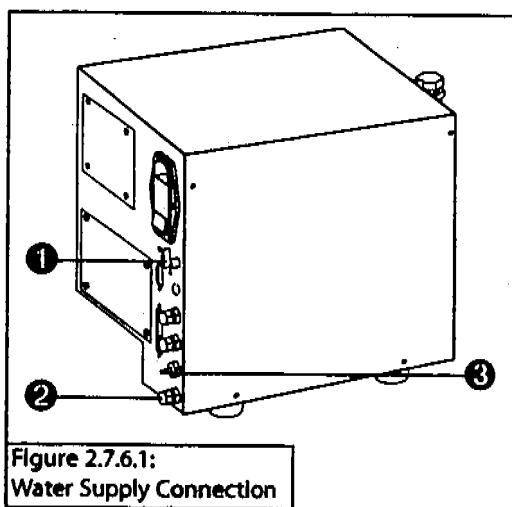

Figure 2.7.6.1:
If you are not using an external reservoir kit, make sure that the toggle valve on the rear of the sample module (❶, Figure 2.7.6.1) is set to VENT.
1. Remove the brass cap from the port labeled Water In (❷, Figure 2.7.6.1) on the rear of the sample module.